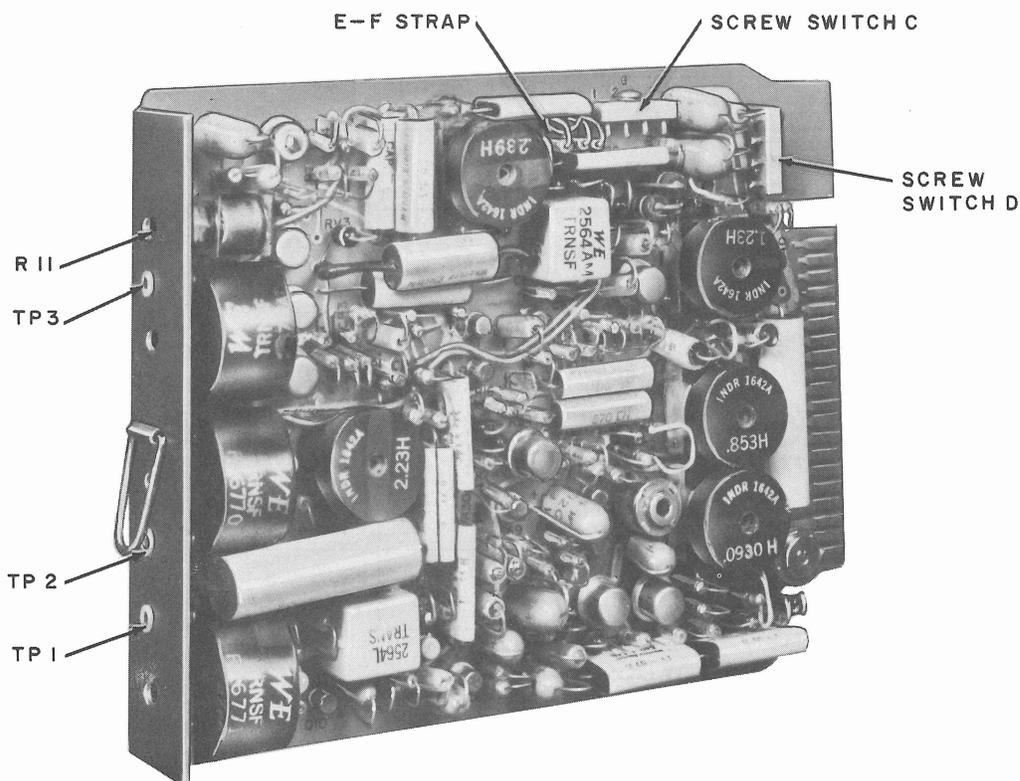

Fig. 7 — Data Set 108A-Type, Locations of Test Points and Screw Switches
4.01 Screw switch D (Fig. 7) on Data Set 108A-type will have been closed to provide maximum sensitivity (maximum gain of the receive buffer amplifier) during manufacturing tests. The gain of the amplifier may be reduced in two 4-dB steps and should be adjusted to fit the requirements of each installation. Table A shows the reduction in gain for each screw setting. The screw switches should be set according to the service order and/or worksheet.
shows typical loop impedance if the cable make-up is known. Select the proper facility make-up under the TYPICAL LOOP FACILITY column. Find the typical loop impedance at 2125 Hz corresponding to the Data Set 108A-type operation. When the impedance is found, refer to Table C for the strapping required for the optimum trans-hybrid balance. Set screw switch C and strap E-F as indicated in the table. Refer to Fig. 7 for the location of screw switches and the strap.
4.04 Connect terminals + and - of Portable Station Test Set TTS-28 to TP 1 and TP 2 of the data set (Fig. 7). Set FUNCTION switch of TTS-28 to DBM 900Ω TERM 0 position.